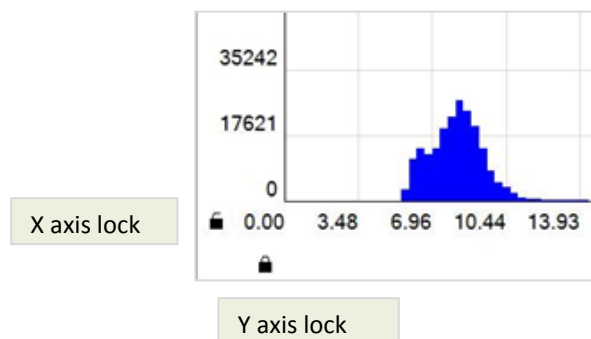

Fig. 56. Axis locks for histogram
1. Check to see if the axes are locked by observing the small padlock symbols near the graph origin. If an axis is locked, it will stay the same as in the original histogram; if it is unlocked, it will change to reflect the new data set. The symbols are shown in Fig. 56. Click on a lock to change its status.